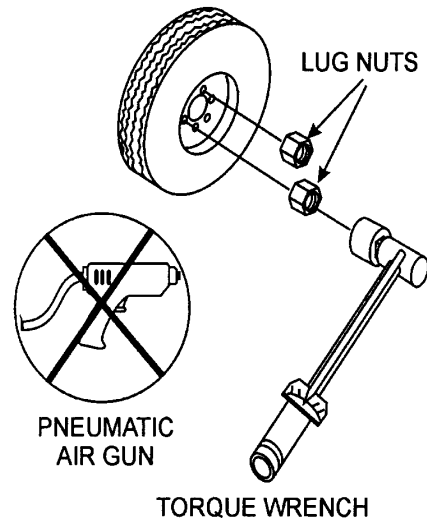

Figure 62. Wheel Lug Nuts Tightening Sequence
12. **Lug Nuts** — Used to secure the wheel to the wheel hub. Always use a torque wrench to tighten down the lug nuts. See Table 16 and Figure 62 for lug nut tightening and sequence.
2. Torque all lug nuts in sequence (see Figure 62). **DO NOT** torque the wheel lug nuts all the way down. Tighten each lug nut in 3 separate passes as defined by Table 16.